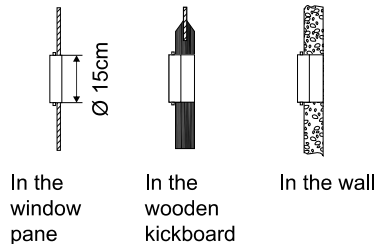

Fig. 5
- Drill a hole in an outside wall or through a window pane. Ensure the MIN / MAX dimensions for the hole size and its position are adhered to. (Fig. 5 and 6)